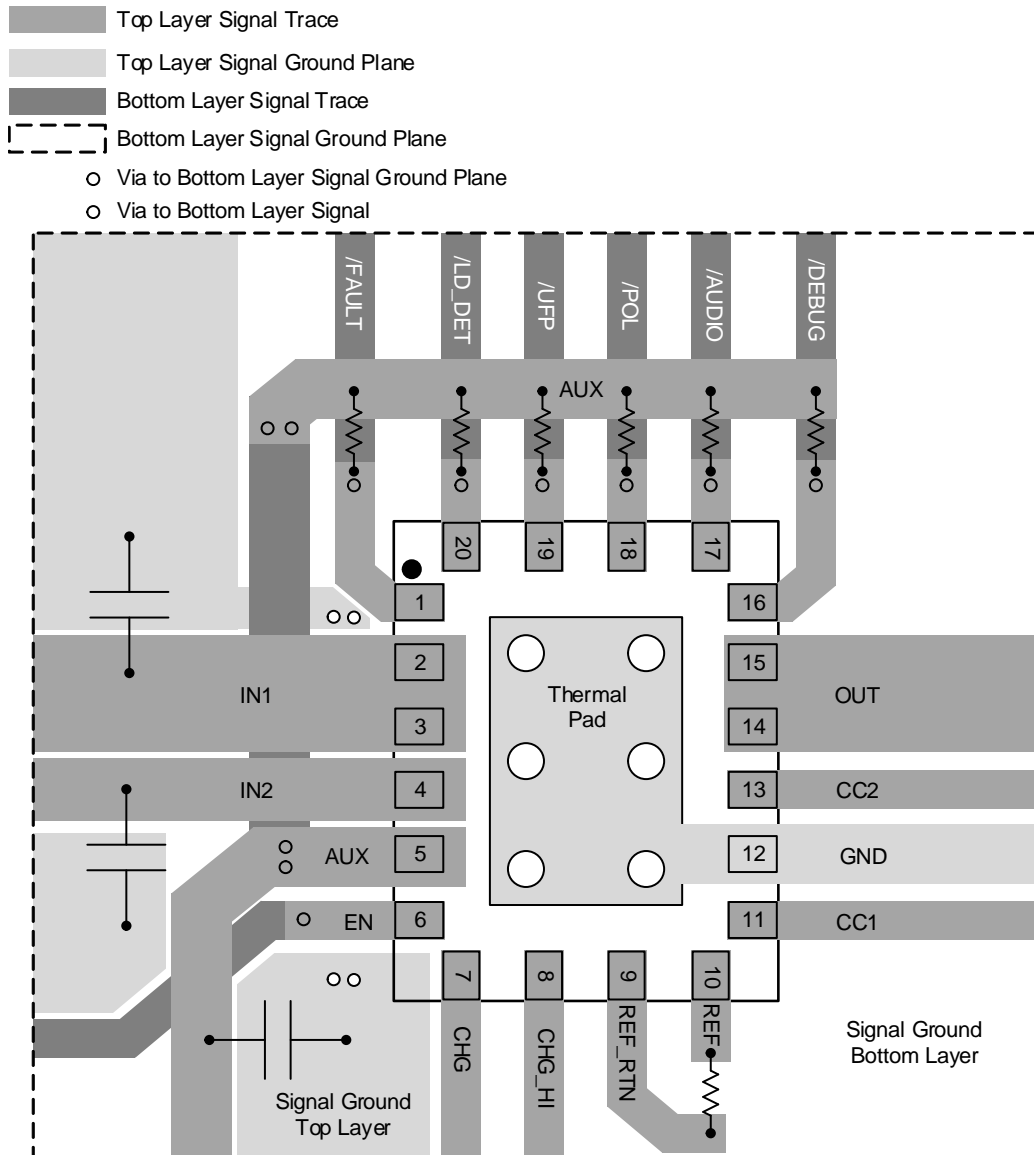

Figure 29. Layout Example
- Care must be taken to minimize the loop area formed by the bypass-capacitor connection, the IN1 pin, and the GND pin of the IC. See Figure 29 for a PCB layout example.
- The REF\_RTN pin should be isolated from the GND plane. See Figure 29.